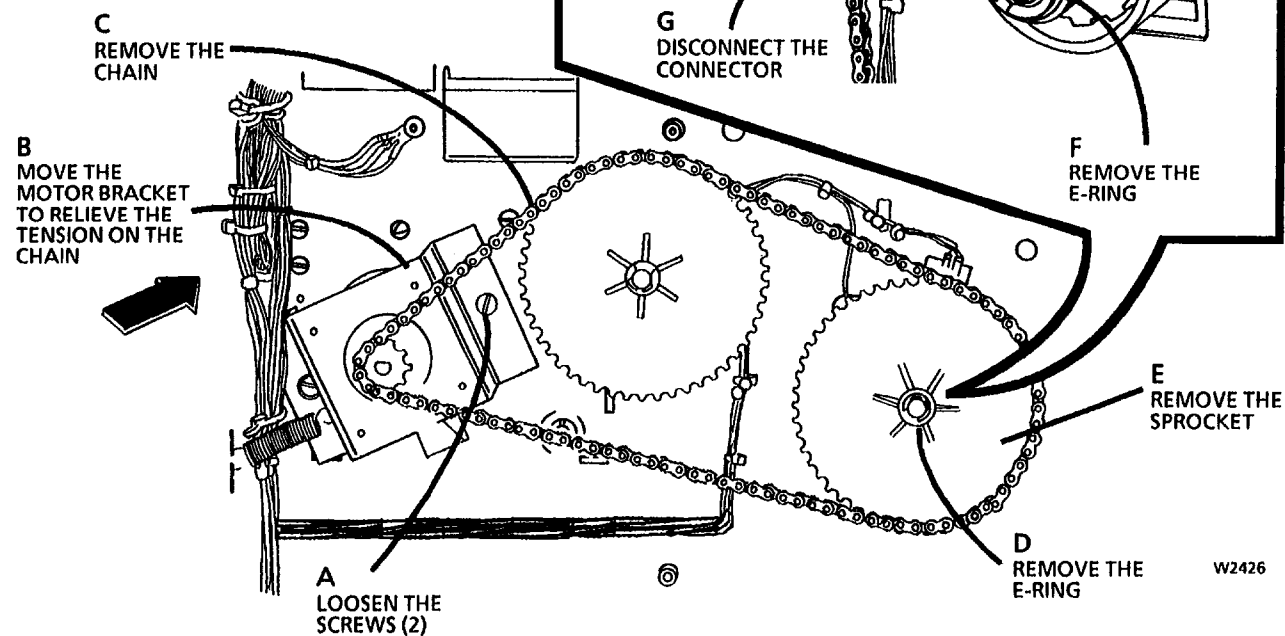

Figure 1. Removing the Rewind Clutch
2. (Figure 1): Remove the Clutch.